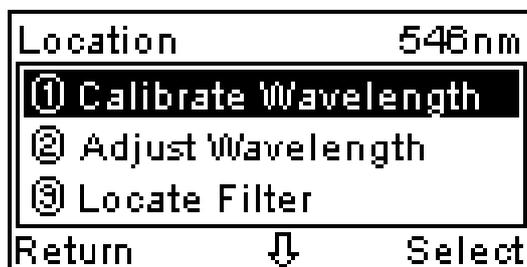

Fig 42
- 【1】** When you select “System Location” and go into Fig 42, we have got four options, only first one (Calibrate Wavelength) is for user, the other three options are used for maintenance by technician, it is not recommended for user to select this three options.